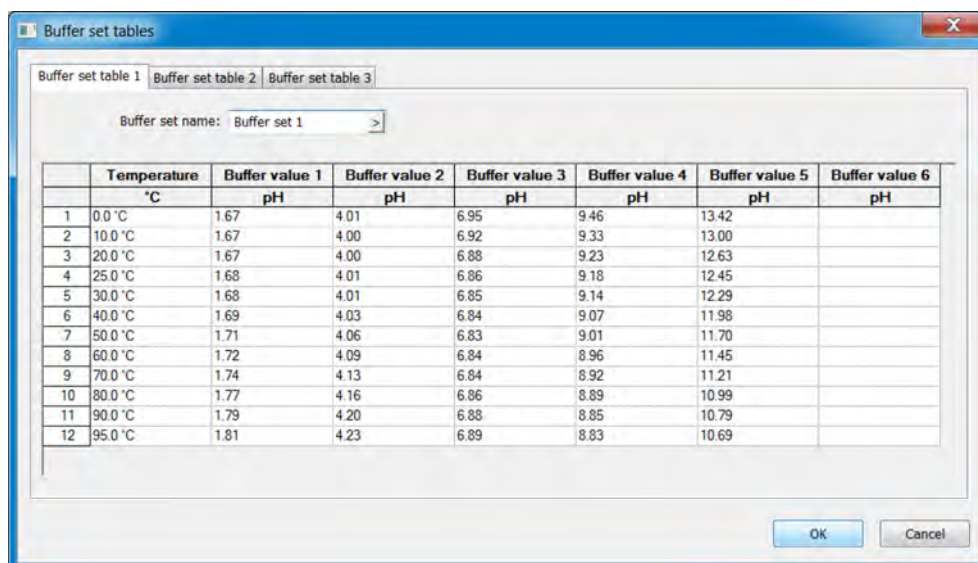

Fig. 133: Buffer set tables
- **Background colour:** Adjustable colour of the background, see Fig. 133 , (2).
- **Background:** Any image in bitmap format (the size of the process picture is 316 × 182 pixels), see Fig. 133 , (6).
- **Objects:** Graphical elements for visualizing the operating state of resources of a plant (e.g. as pumps, valves, heaters, etc.), see Fig. 133 (3).
Use the buttons in the process picture editor object list entries can be copied, cut, paste, moved and deleted. See Fig. 133 , Item 3.